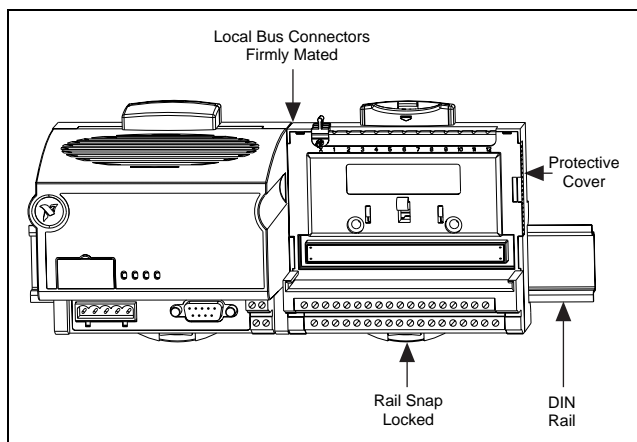

Figure 3. Installed Network Module
4. Add terminal bases to the DIN rail with their local bus connectors firmly mated to the FP-1000 local bus connector. The FP-1000 is shipped with a protective cover over the local bus connector. Remove this protective cover, and place it over the local bus connector of the last terminal base in the stack. Figure 3 shows an installed FP-1000 network module.